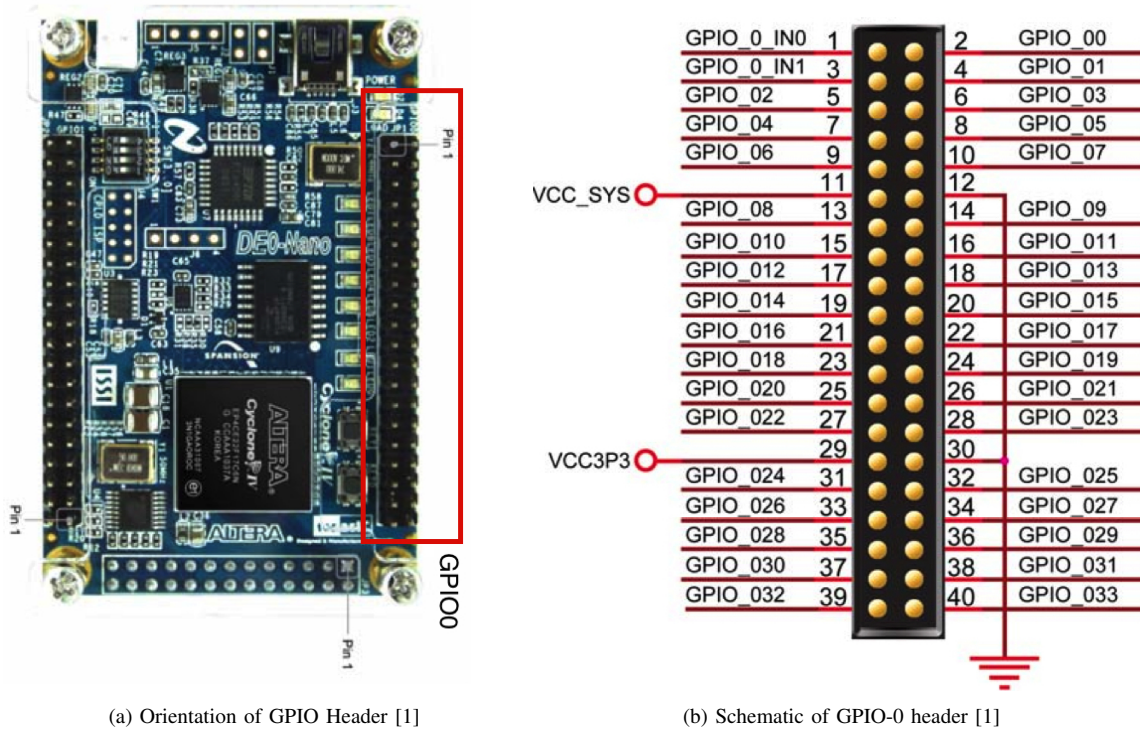

Fig. 4: GPIO0 and its orientation on the development board
1) *GPIO headers on the DE0-Nano:* Be careful when referencing the pin diagrams in the DE0-Nano user manual. It is easy to read it backwards, that cost you hours. It is easiest to match the Nano's orientation with the schematic and count from the nearest edge. Figure 4 shows GPIO 0 next to a schematic of the header. Always check VCC\_SYS, VCC3P3, and GND with a multimeter before attaching a circuit you have built. This is the header pin schematic from the DE0-Nano user manual. Inside the Verilog code, these pins follow a different nomenclature. What is labeled as GPIO\_0\_IN[0] in figure 5 is GPIO0\_IN[0] and GPIO\_00 is GPIO0[0]. Refer to the DE0-Nano user guide for details on the orientation of the headers.